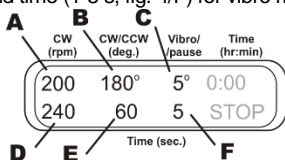
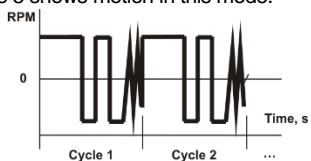

Figure 4.
Figure 5.
- 6.9.2. **Rotational + Reciprocal + Vibro motions.** Set the speed (40-1000 rpm, fig. 4/A) and time (1-250 s, fig. 4/D) of rotational motion. Set the angle (30-360°, fig. 4/B) and time (1-250 s, fig. 4/E) of reciprocal motion. Reciprocal and rotational motions have the same speed. Set the turning angle (1-5°, fig. 4/C) and time (1-5 s, fig. 4/F) for vibro motion. Graph in figure 5 shows motion in this mode.